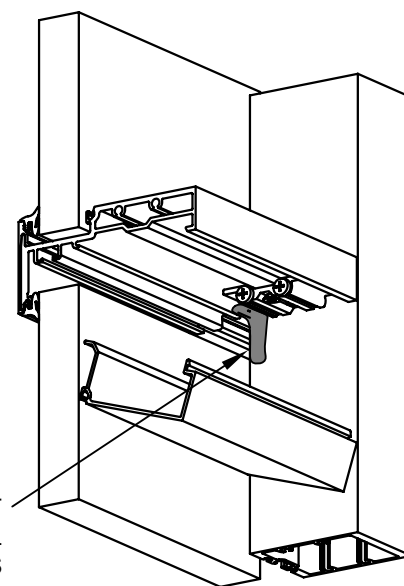

FIGURE 4
- STEP H:** Apply sealant along verticals where glass stop meets, then install glass stops (Figure 4).